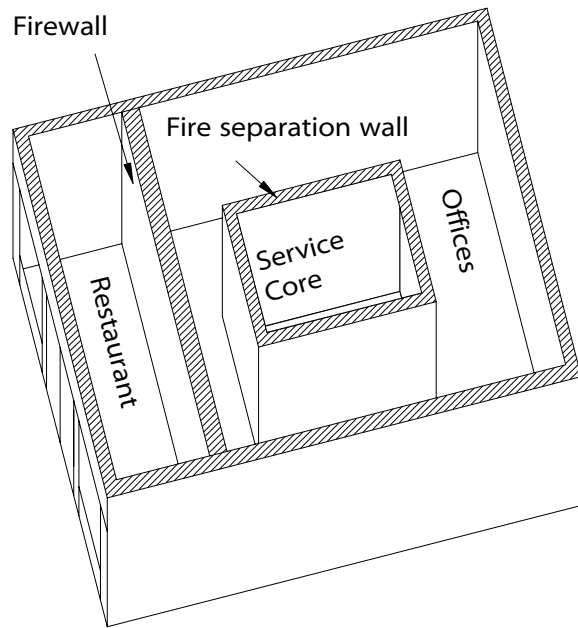

Figure 42-2 Firewalls.
spread of flame and heat through the use of fire-rated structural materials with fire-resistant (FR) ratings. Building codes limit the number of penetrations in a fire rated wall. Fire barriers can be divided into three types. Firewalls (Fig. 42-2) have the highest fire ratings and are usually part of the building shell. Fire separation walls are used to create fire-rated compartments within a building. The fire ratings of the third category, floor/ceiling assemblies, depend on the walls they surround.